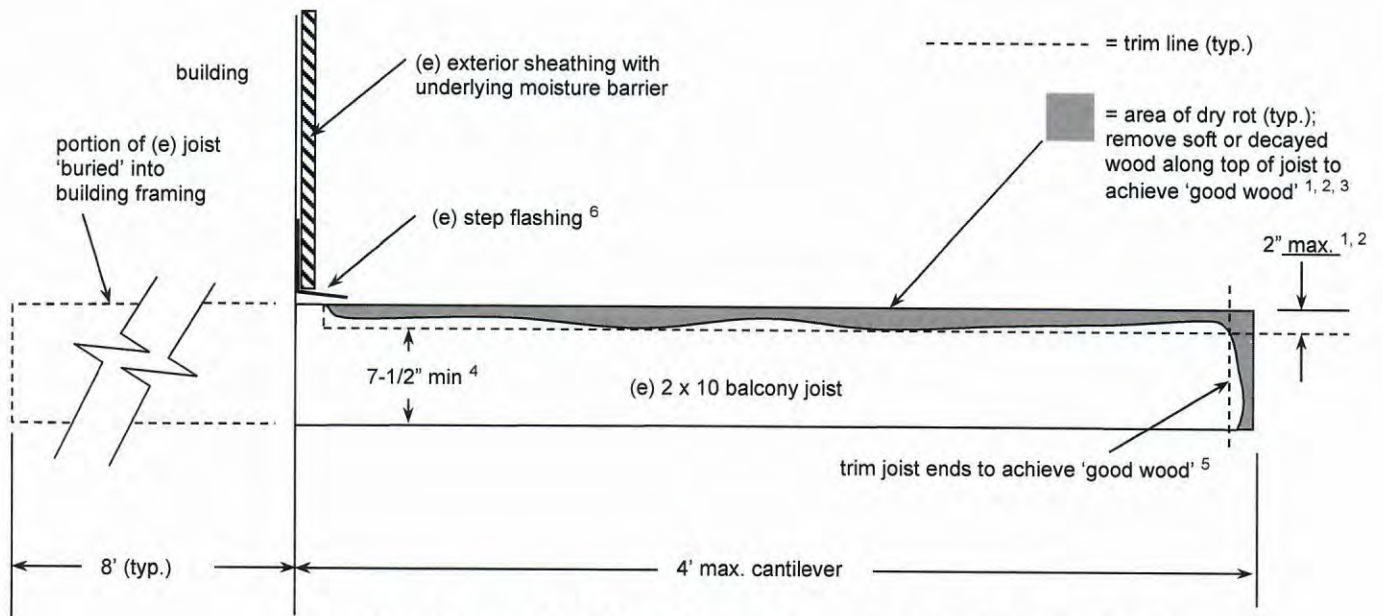

Fig. 1: removal of ‘dry rot’ areas from a ‘serviceable’ joist (typ.)
A joist may also exhibit deterioration at its end due to susceptibility of the end-grain to water absorption and decay. To cost-effectively address this situation, remove all decayed wood at the end(s) by shortening all joists by the same amount, leaving only sound wood for the attachment of posts and rim joist in compliance with this prototype. See **Figure 1: Removal of 'dry rot' areas from a 'serviceable' joist.**
Remove all deteriorated wood (to a maximum depth of 2"). This may be done all along the span of the joist or only in specific areas, depending on the extent of deterioration. See **Figure 1: Removal of 'dry rot' areas from a 'serviceable' joist.**
Caution: Multiple joists may be "sistered" but no more than two adjacent joists may be "sistered". See **Figures 1, 2, & 3** for important details.
If deterioration extends more than 50% of the original 2 x 10 joist, **"partially replace"** the joist by cutting it off where necessary and replacing it with a matching board in between a new cripple header and the rim joist. This prototype limits "partial replacement" to a total of two joists (not adjacent) per balcony. In addition to Figures 1, 2 & 3, see **'Figure 5: Partial replacement of joist'** for important details.
After all joists have been inspected and repaired, new rim joist installed and all fascias replaced as described above and in Figures 1 through 5, rebuild the posts, railings, balusters and decking as described in Figures 6 and 7.
2. Do not remove more than 2" along the top of each (e) 2x10 joist without sistering or partially replacing joist. See Figure 1 for additional requirements.